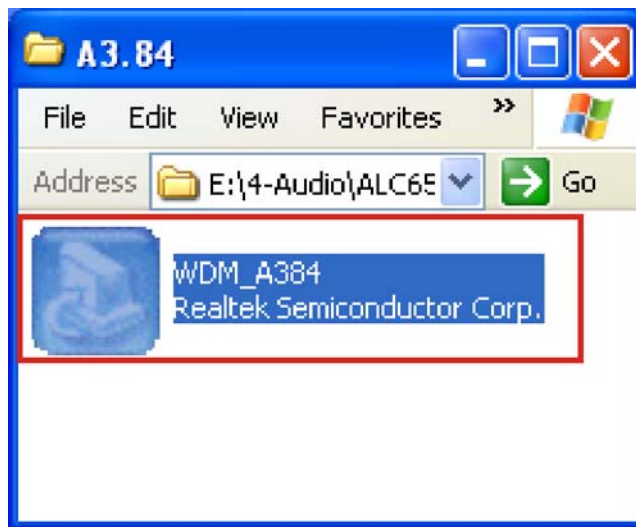

Figure 7-17: Audio Driver Options
Step 44: Browse for “4-Audio\Windows\Windows 98Gold, 98se, Me, 2000, XP, 2003(32,64 bits)\A3.84” Double-click the installation file in Figure 7-17.